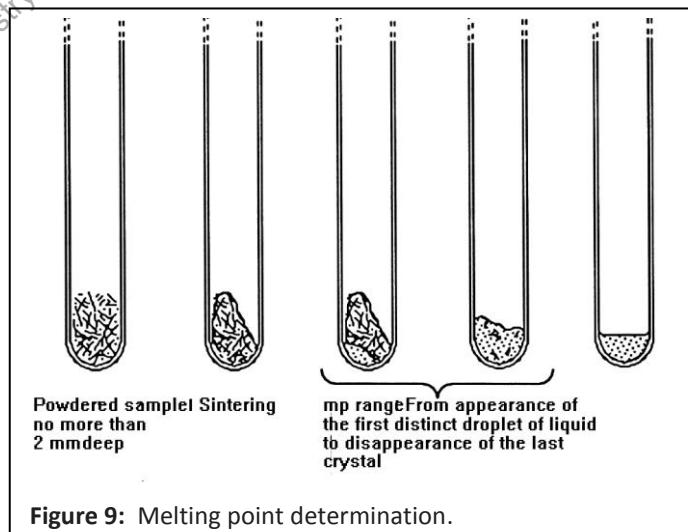

Figure 9: Melting point determination.
9. A few degrees below the melting point the sample will shrink and may appear soggy; the sample is sintering. The onset of sintering can be recorded, but sintering is not considered to be melting. The beginning of the melting point is defined by the appearance of the first distinct droplet of liquid. The end of the melting ‘point’ range is the disappearance of the last crystals (Figure 9) and the sample turns into a clear liquid.